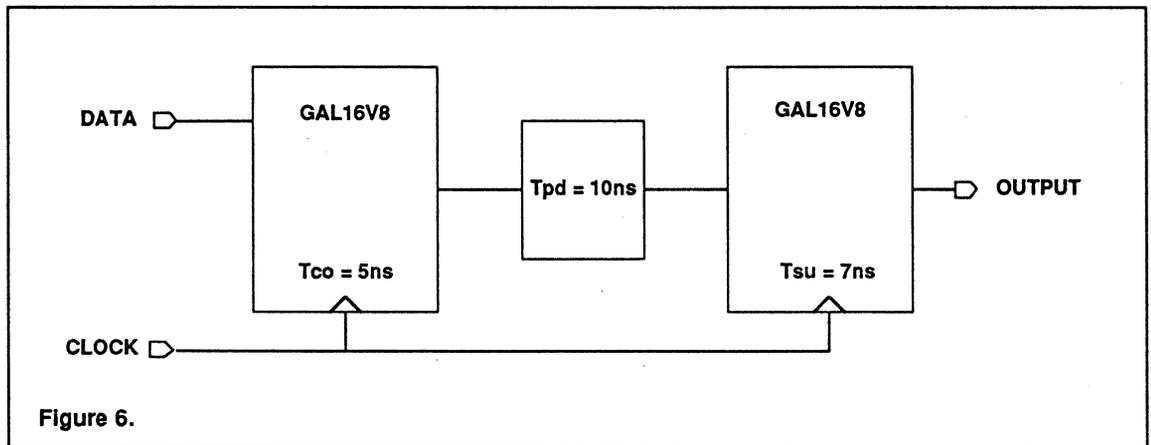

Figure 6.
To determine the maximum clock rate (given an acceptable error rate) that a particular device will allow in an asynchronous environment, equation (4) is used. For example, the system shown in Figure 6 utilizes a 9600 baud (bits/sec) asynchronous data stream. The system clock period is  $t_{CO}+t_{PD}+t_{SU}+\Delta$ . For one failure per year: